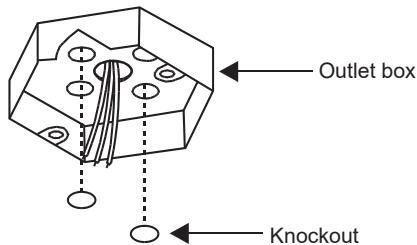

Fig. 4
1. Remove two knock-outs from the outlet box to expose the joist. (Fig. 4)